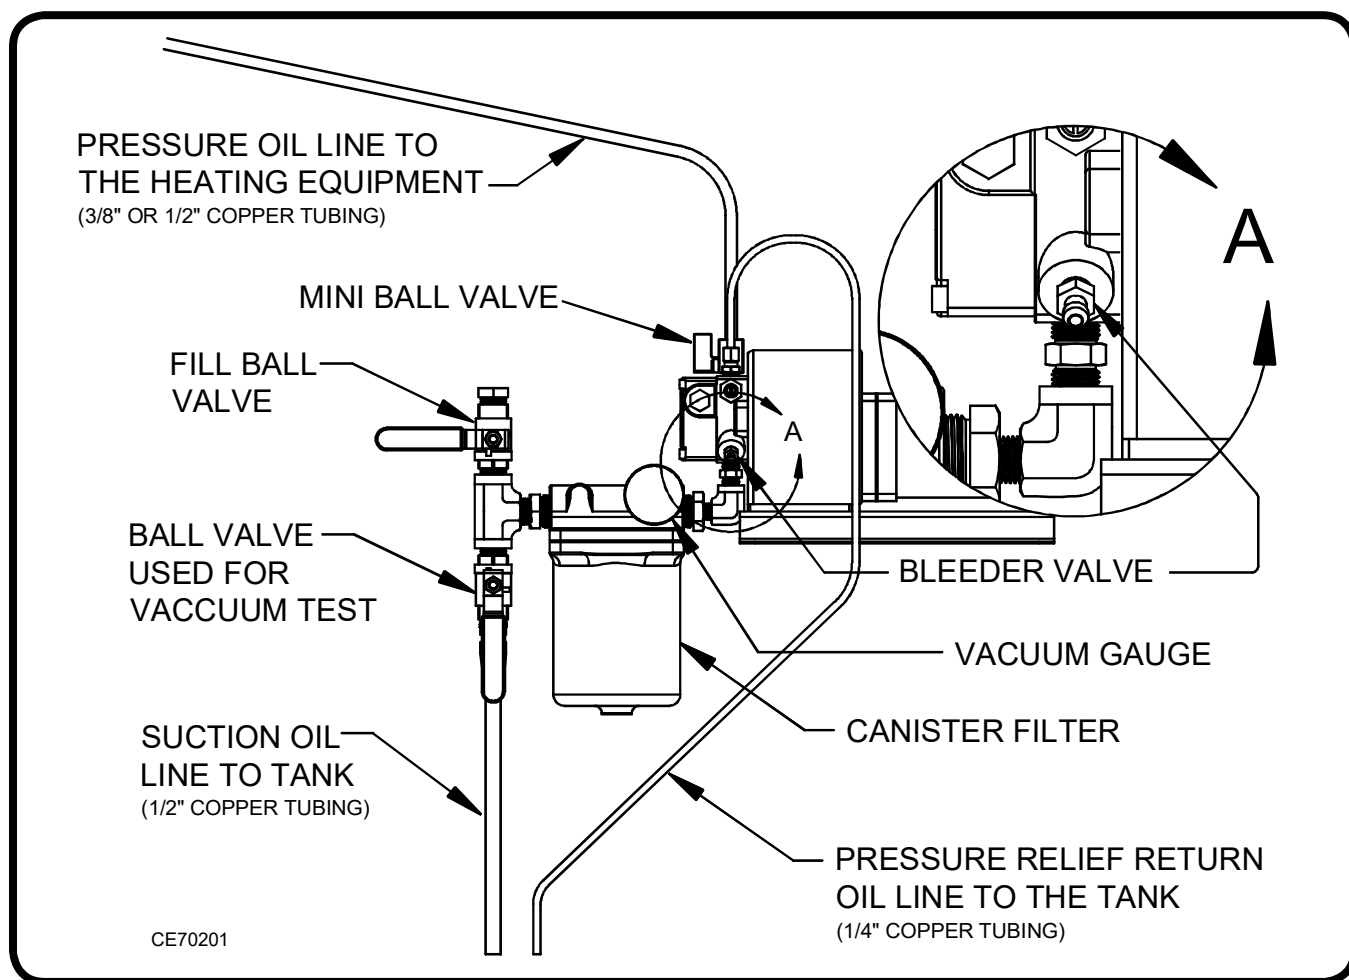

Figure 14: Alternate Horizontal Metering Pump Mounting
- (1) Refer to Figure 14 for an illustration of the alternate horizontal mounting.
- (2) Loosen the pump head and rotate it 90°. The pump assembly may now be mounted in the horizontal position as on a shelf.